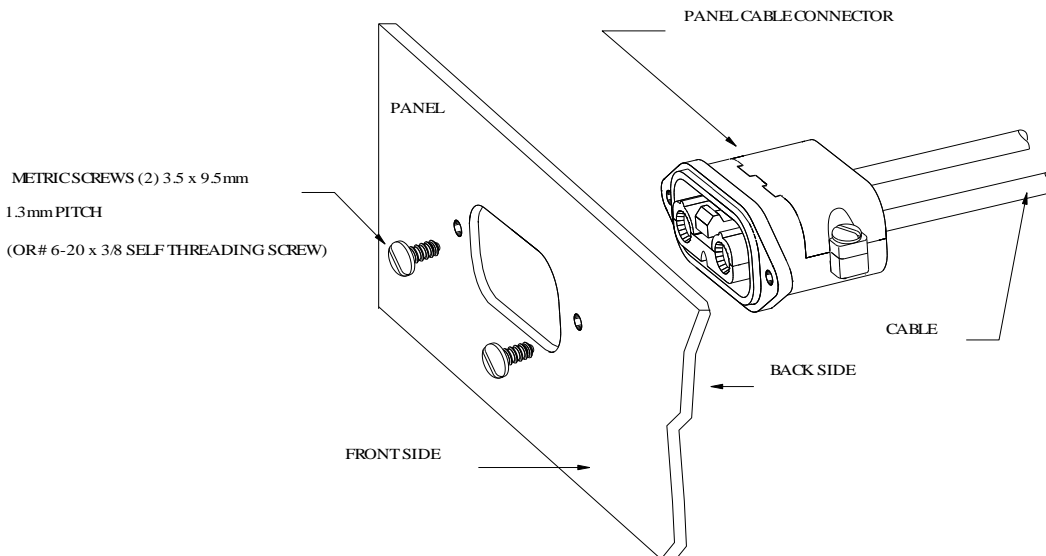

FIGURE 2. PANEL CABLE CONNECTOR ASSEMBLY
- 2.) Insert the assembled PANEL CABLE CONNECTOR from the back side of the panel. Carefully align the two screw holes of the panel to the panel cable connector flange holes (see Figure 2). Orient latch up or down according to your need.